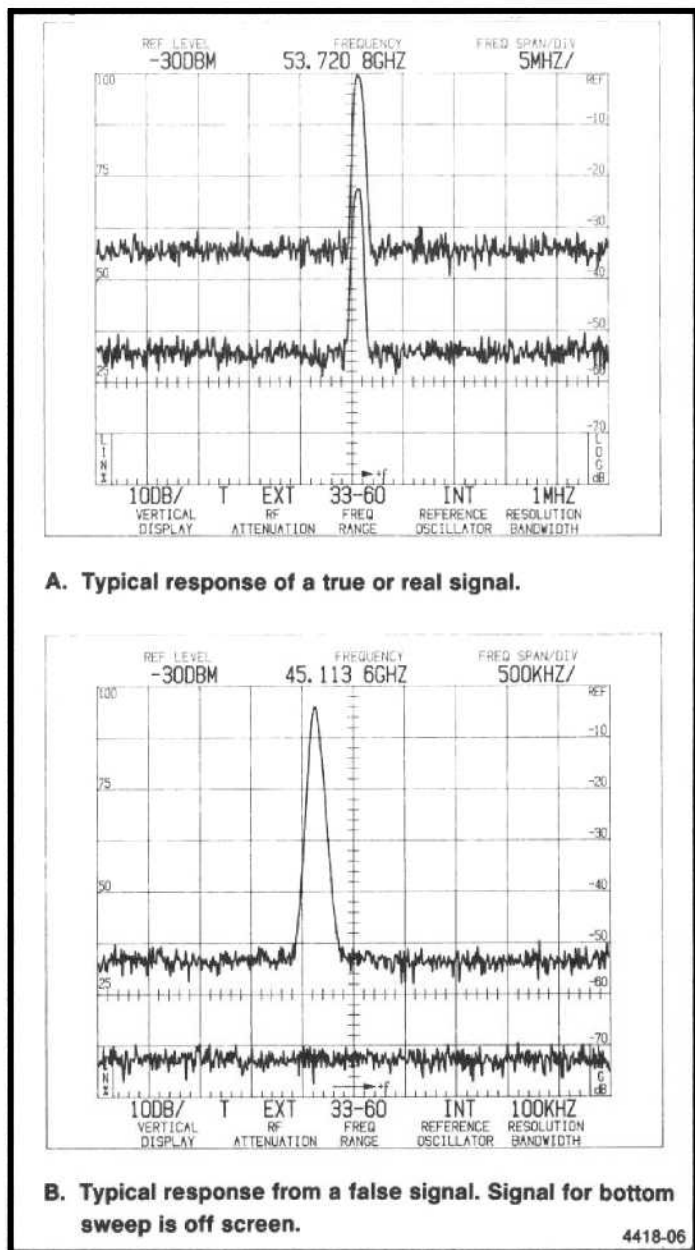

Figure 4-2. Typical display with SAVE A on to observe IDENTify mode.
(1) With the 500 MHz marker tuned to center frequency, decrease the FREQ SPAN/DIV to 50 kHz or less and press IDENT.
(2) Note that there is no horizontal displacement of the 500 MHz signal on alternate sweeps. To help determine if the signal is true or false, decrease the sweep rate or activate SAVE A, with both VIEW A and VIEW B on, so a comparison is easily observed (see Figure4-2).
(3) Switch IDENT off.